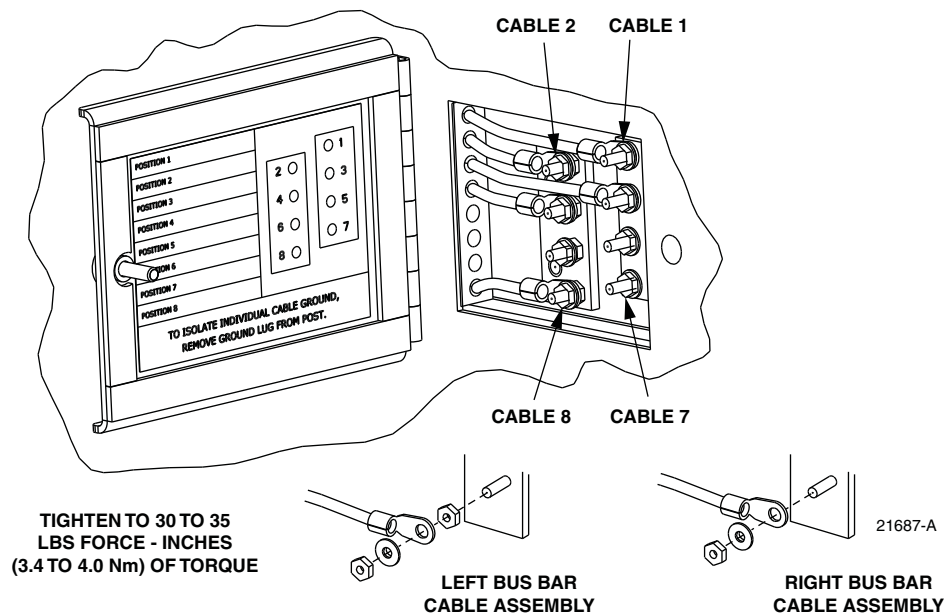

Figure 22. Cable Grounding System - Exterior View
4. Open the grounding system access cover located on rear of cabinet (Figure 22).